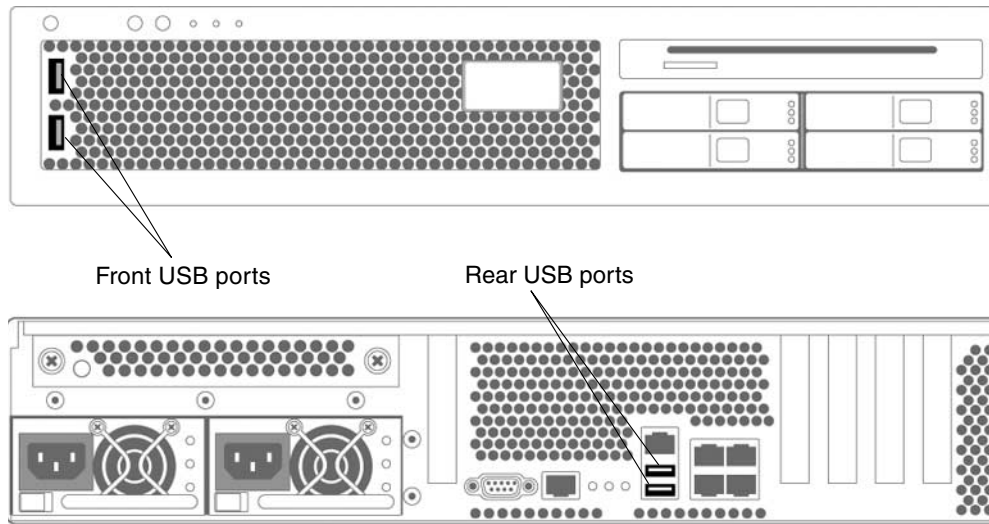

FIGURE 6-2 Adding a USB Device
- Plug a standard USB device into one of the USB ports (FIGURE 6-2) on the front or rear of the server.